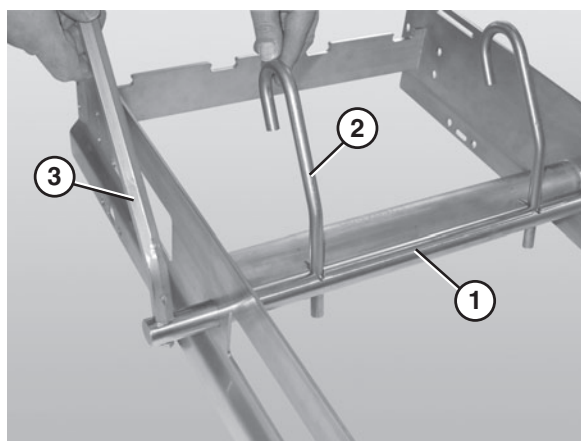

Figure 24
1. Slide the belt lift pivot bar (**Figure 24, item 1**) through the designated holes in the frame.
2. Attach the lifter bars (**Figure 24, item 2**) to the belt lift pivot bar (**Figure 24, item 1**). Make sure the hooked ends of the lifter bars are facing down when resting against the frame.
3. Attach the lifter handle (**Figure 24, item 3**) to the belt lift pivot rod.